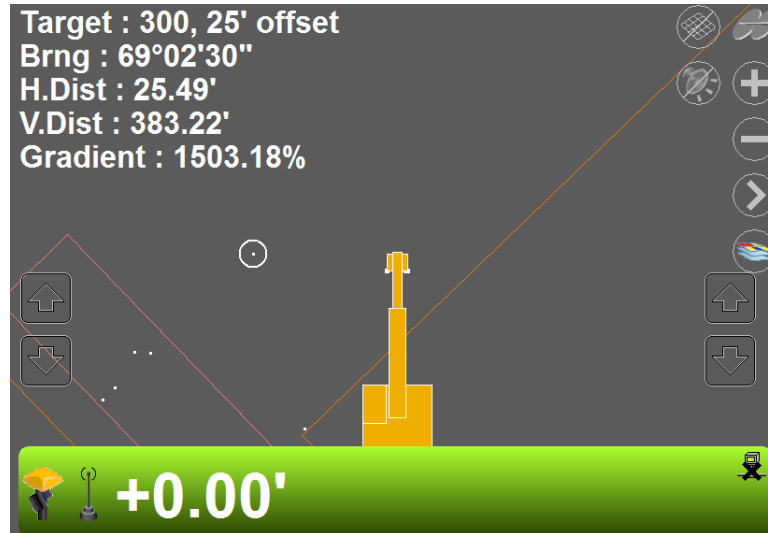

Figure 79: Machine Navigates to Selected Point
9. Select the point in the tab list, and tap **OK**. The main screen appears with stakeout information displayed (Figure 79).